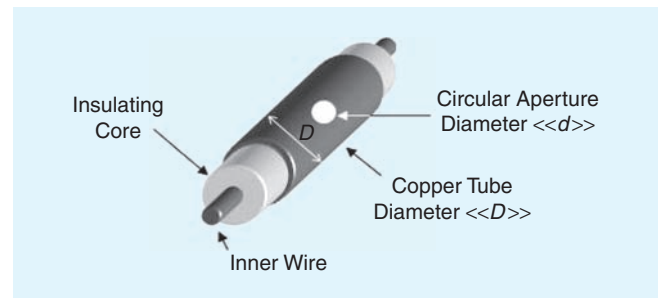
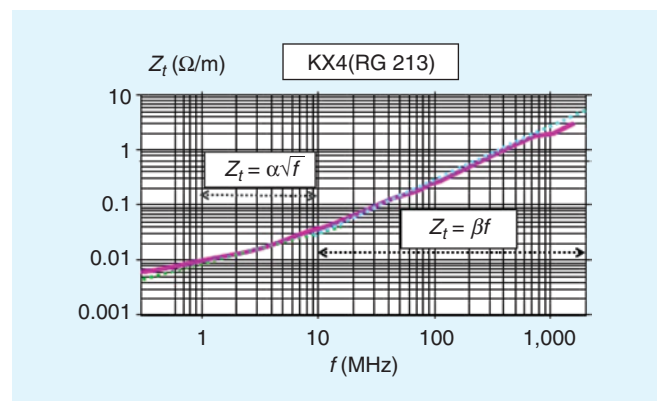

Fig. 12. Calibration sample with small circular aperture: description of the main geometrical parameters.
Fig. 17. Typical behaviour of the transfer impedance measured on a single braided cable shield with pitch angle lesser than  $45^\circ$ .
For the above reasons, at frequencies above 100 MHz, we adopt samples having their transfer impedance determined by the electromagnetic coupling produced by a small circular aperture. Fig.12 provides construction details of this sample, which is represented by a piece of coaxial cable, whose longitudinal dimension is determined according to the previously defined criteria. The sample requires a homogeneous copper shield of thickness  $E$ , whose suggested order of magnitude will be specified later on. The magnetic coupling is produced by a small circular aperture of diameter  $d$  through the shield surface [6].
where the quantity  $R_0$  represents the per-unit-length braid resistance and  $L_t$  is the transfer inductance due to magnetic leakage occurring at the junction of the braids composing the carrier conductors. For regular cables, the order of magnitude of these parameters is  $R_0 \approx 10 \text{ m}\Omega/\text{m}$  and  $L_t \approx 0.5 \text{ nH}/\text{m}$ . However, some cables depart from the model expressed by (22), as in the case of cable type KX 4 (RG 213), whose transfer impedance measured by the shield discontinuity technique is reproduced in Fig. 17.
The vertical logarithmic scale of Fig. 17 represents the magnitude of the transfer impedance, and two dotted straight lines are added to the measurement curve (in magenta color). A careful analysis of the graph indicates that, for frequencies between 1 MHz and 10 MHz, the curve agrees with a straight line in logarithmic coordinates, meaning that the transfer impedance is proportional to the square root of frequency. On the contrary, from 10 MHz to 2 GHz, the measured curve is best fitted by a straight line with a slope having a double value of the previous one, meaning a direct proportionality with frequency. Knowing that the shield of RG 213 cables presents a pitch angle smaller than 30°, we can argue that the mechanisms of electromagnetic coupling in this case are rather different from those activated by small apertures, as for the case of the calibration sample reported in Fig. 12. Phase measurements of the transfer impedance show that the transfer impedance model best suited for braids of RG 213 type agrees rather well with the following expression: